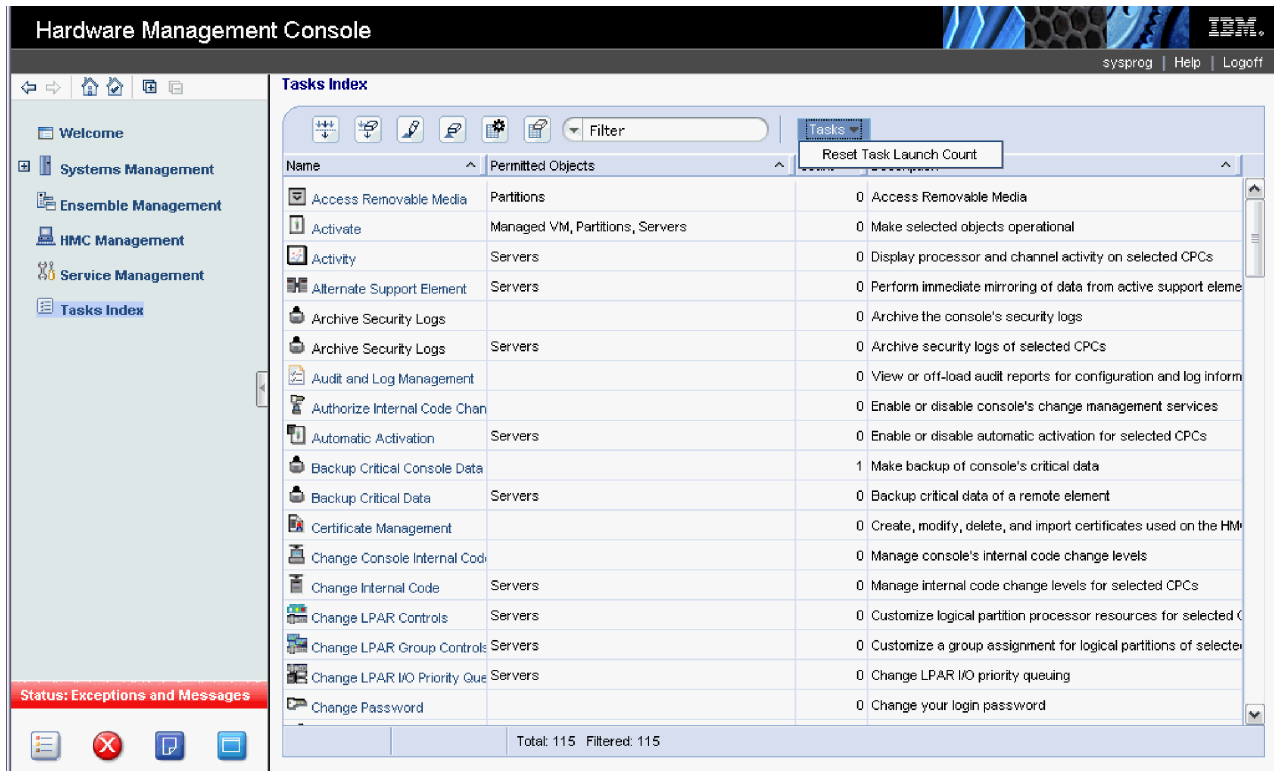

Figure 25. Tasks index
- Each time you open a task, the count increments by one. The values in the **Count** column can be reset back to zero by clicking **Tasks** from the work pane table toolbar, then selecting **Reset Task Launch Count** (see Figure 25).